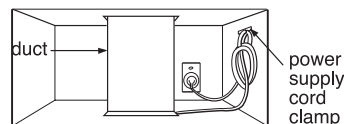

Figure 34
6. Use the power supply cord clamp to bundle the power supply cord. Install the power supply cord clamp, using a screw as shown in Figure 34, to the inside of the cabinet.